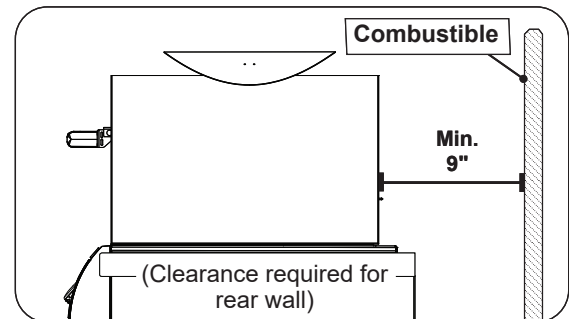

Fig. 18-3 Clearance 'C' Diagram
- The unit must have a minimum clearance of 189" from the combustible rear wall (see Fig. 18-3).